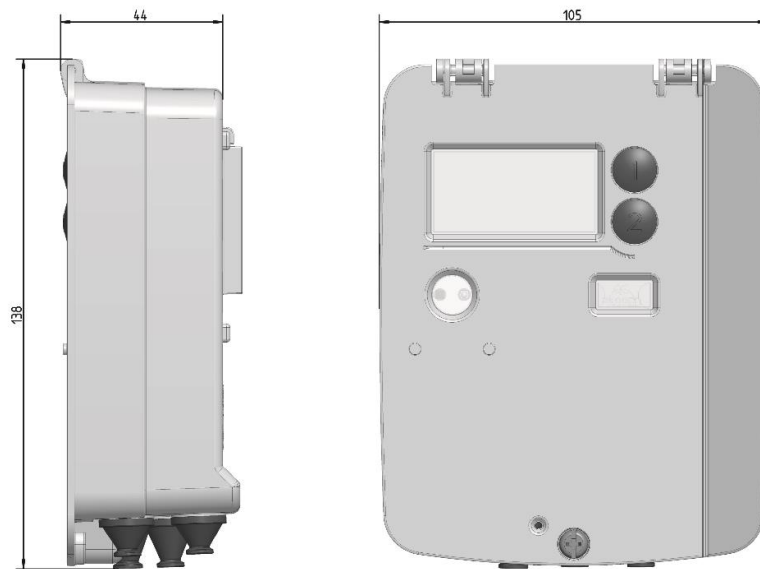

Fig. 1: Dimensions of calculator
- Screw on the device cover (Fig.1, No. 4): min. 1 Nm